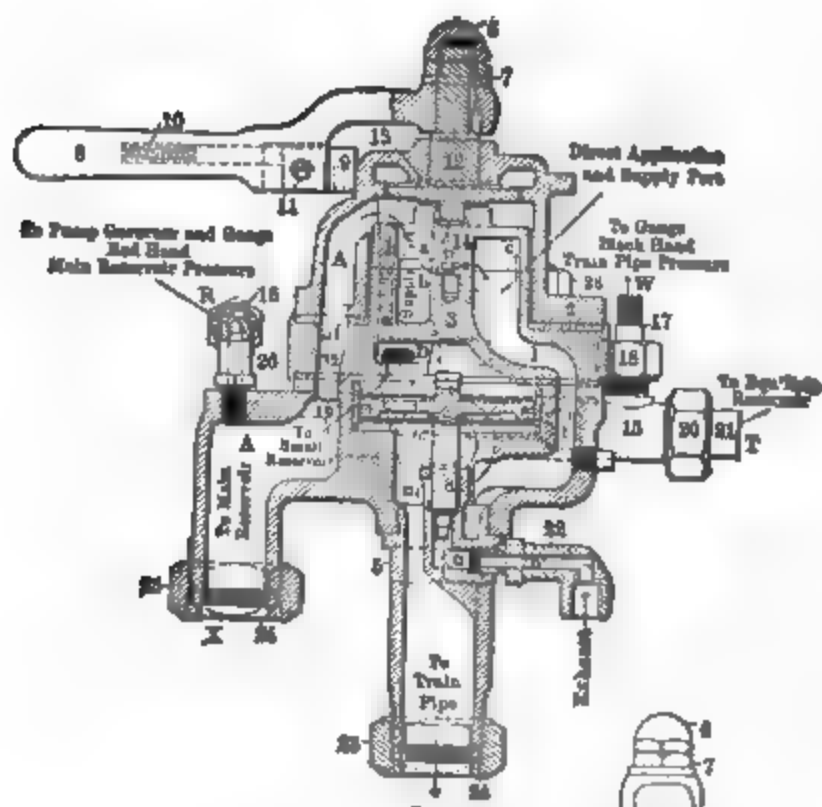
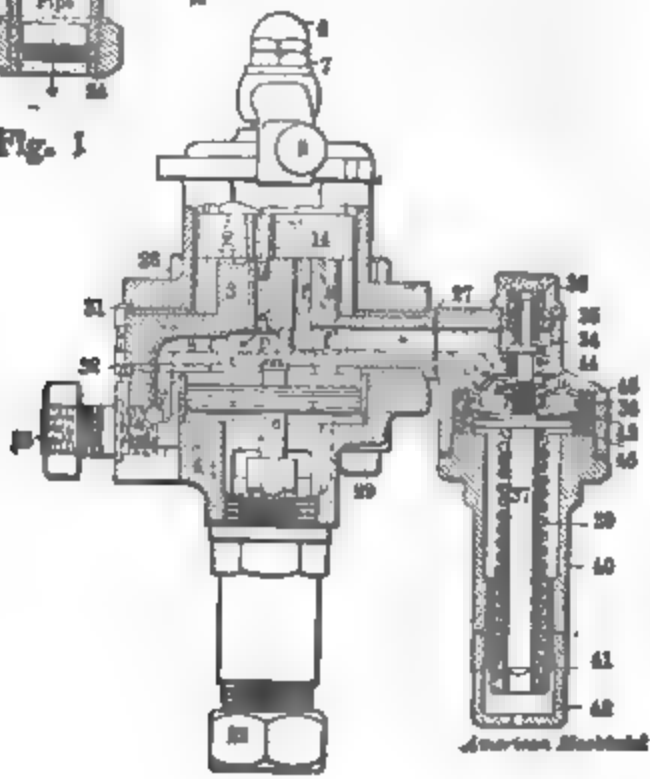

Fig. 1
Fig. 2
The 9½-inch pump differs from the 8-inch pump in several ways. In the first place it is larger by 1½ inches in the bore; second, the valve motion of the steam end is all contained in the top head, except the reversing valve stem, which is the same as in the 8-inch pump; third, the air valves are all the same size, and all have the same lift of three thirty-seconds of an inch, and the valves are placed so that the discharge valves are both on one side, and the receiving valves on the opposite side of the air cylinder; fourth, there is but one air inlet for the receiving valves, making it possible to strain all the air through one strainer, as indicated by 106, Fig. 1. The main piston is the same in construction as in the 8-inch pump; there are two heads (67) on one piston rod (65), and this rod is hollow to admit the stem (71) of the reversing valve (72), and the reversing valve stem is driven up or pulled down by the reversing plate (69) striking the shoulder (7) or the button (70), just as it does in the 8-inch pump.
To explain this it is necessary to use two sectional views of the pump, as shown in plate 15. In Fig. 1 the pipe connection 93 shows by dotted lines how the steam from the boiler is carried through a passage in the back of the pump to the main-valve chamber.
The slide-valve seat has three openings: the one on the left, in Fig. 1, leads to and from the underside of the main piston; the one on the right leads to and from the top side of the main piston, and the one in the middle leads to the main exhaust, 92. Consequently when steam enters the main-valve chamber the piston 77, having the largest area, is forced to the extreme right, as in Fig. 1, against the head 84, which causes the slide valve to uncover a port
The main-valve chamber is always in communication with the reversing-valve chamber by a small port in the bushing (75), as shown in Fig. 2; cap nut 74 has a small port in it which allows live steam to always reach the top of the reversing-valve stem, for the purpose of keeping the pressure balanced on both ends of it.
As the main piston is now making its down-stroke the reversing plate (69) engages the button on the end of the reversing-valve stem and draws the reversing valve down to the position shown in Fig. 2, which connects the second horizontal port in the bushing with the port which in Fig. 3 appears to be vertical and having a short extension to the right, and as this port is always open to the main exhaust, the steam between piston 77 and the head 84 is exhausted, which allows the steam in the main-valve chamber to again force piston 77 to the position shown in Fig. 1, which places the slide valve in position to allow the steam to exhaust from the top of the main piston, and at the same time connects the main-valve chamber with the underside of the main piston, causing it to be forced up, as before.
The drain cock (105) must be handled in the same way as the one on the eight-inch pump, but in addition to this one there is one in the main exhaust (not shown in Fig. 1), and it also must be opened when starting the pump.
Fig. 2 shows trainpipe exhaust *n, n*, 25.
Another difference between the two kinds of brake valves is that with the D-8 valve, when making a service application, the air from cavity D over the equalizing discharge valve (17) is exhausted to the atmosphere through a separate little port in the casing, marked *h* in Fig. 2 of plate 18, whereas the preliminary exhaust *h*, in the F-6 valve, is connected with the main or emergency exhaust, marked *h* in Fig. 2 of plate 20, thus making one port less through the casing of the F-6 brake valve.
The parts of the F-6 brake valve are as follows: the handle, which controls the rotary, is marked 8, in Fig. 1; the lug (9) is forced out by a spring (10) so that the handle may be stopped in any desired position, and when placing the handle in any of the positions be sure that the bolt in the handle is right up against the lug on the brake valve, for the reason that the rotary valve is moved in exact accord with the handle. If the bolt or lug is worn the movement of the rotary will be correspondingly changed out of its proper alignment; 12 is the stem to one end of which the handle is fastened by nuts 6 and 7, and the other end is dove-tailed or keyed into the top of the rotary, so that whatever way the handle is turned the rotary has to turn with it; 13 is a small leather gasket for the purpose of preventing any air from leaking out around the stem, as main reservoir pressure is always on top of the rotary and under the shoulder of stem 12, forcing it up against the casing. This gasket
Fig. 2 shows rotary seat and five positions of the handle.
As cavity D above the discharge valve is very small, it is necessary to have a greater volume of air to control it than the cavity alone will contain, and this greater volume is supplied by a little drum, or equalizing reservoir, which holds about 500 cubic inches of air, and is located, usually, under the footboard of the cab. It is connected to the brake valve at T (Fig. 1), and from T to cavity D there is a connecting passage, as shown by *s* in Figs. 2 and 3, and as the little drum is always charged equally with cavity D, whenever the pressure in cavity D is reduced it is also reduced in the little drum. This greater volume is needed above the discharge valve to compensate for the volume in the trainpipe.
dotted lines, and marked *z*, Fig. 2, plate 20), which leads off the top of the piston into the trainpipe by way of the main supply port, as shown by dotted lines in Fig. 2. As the rotary is now in position so that the large cavity (*c*), as shown in Fig. 4, plate 20, connects the main supply port with the equalizing port *g* (which passes through the rotary seat into cavity D), the air that is passing from the top of the rotary through the feed valve into the trainpipe, is also filling cavity D, and the little drum, by way of ports *g* and *s*, as shown in Fig. 3, plate 19 (while plate 19 shows full release position, still ports *s* and *g* are plainly shown, and if the handle was moved to running position the port through the rotary that registers with port *e* in Fig. 3, would be in register with port *f*; port *g* is indicated by dotted lines).
The black hand of the gauge is piped to the little drum at W (Fig. 1, plate 19), as stud 17 is tapped into pipe 15 which connects the little drum with cavity D by way of port s.
Attached to the brake cylinder on each car there is an automatic reducing valve. Fig. 2 shows how the air passes in at Z, through a strainer (17), and, if the pressure is above sixty pounds, it overcomes the tension of regulating spring 11, and piston 4 is forced down, which carries the slide valve (8) with it, so that port *l* in the valve registers with port *a* in the seat, and allows the surplus pressure to escape to the atmosphere until the cylinder pressure is down